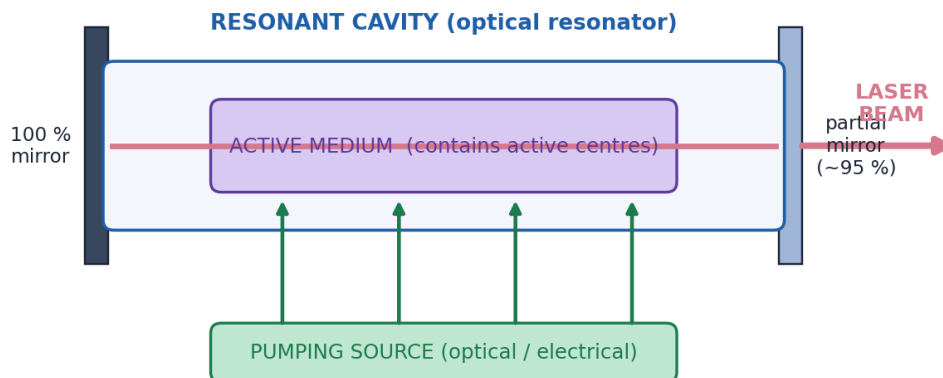

Figure 1.4 — The three essential components of every laser.
- A labelled Figure 1.4 with one line of explanation per part is a complete 4-mark answer.